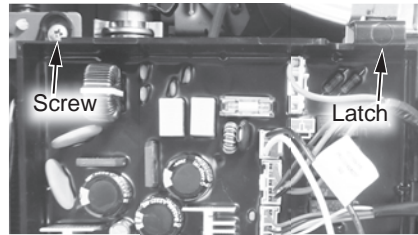

Figure 232 - Control board location
- 12 Locate the two (2) screws at the bottom of the cabinet cover. Use a Phillips screwdriver to remove the screws. Place screws aside in a safe place for reinstallation.
- 14 Locate the screw securing the control board panel. Use a Phillips screwdriver to remove the screw and place it aside in a safe place for reinstallation. See Figure 232.